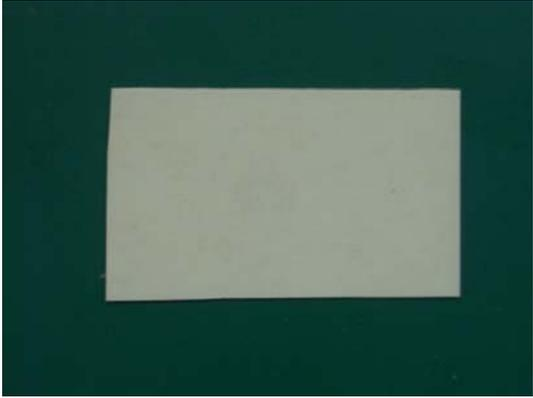
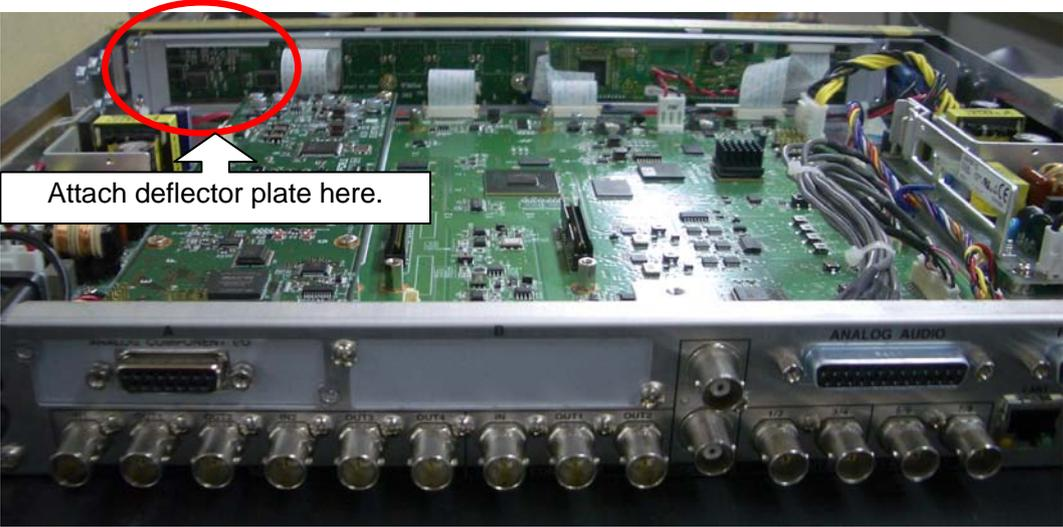

Fig. 22 Deflector plate
Fig. 23 Chassis interior
3. Attach the supplied deflector plate (Fig. 22: with adhesive tape). (Figs.23 and 24)